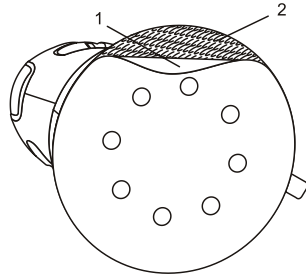

Fig. 2
To remove the sanding disc (1), simply peel the disc away from the hook & loop pad (2) (Fig. 2).